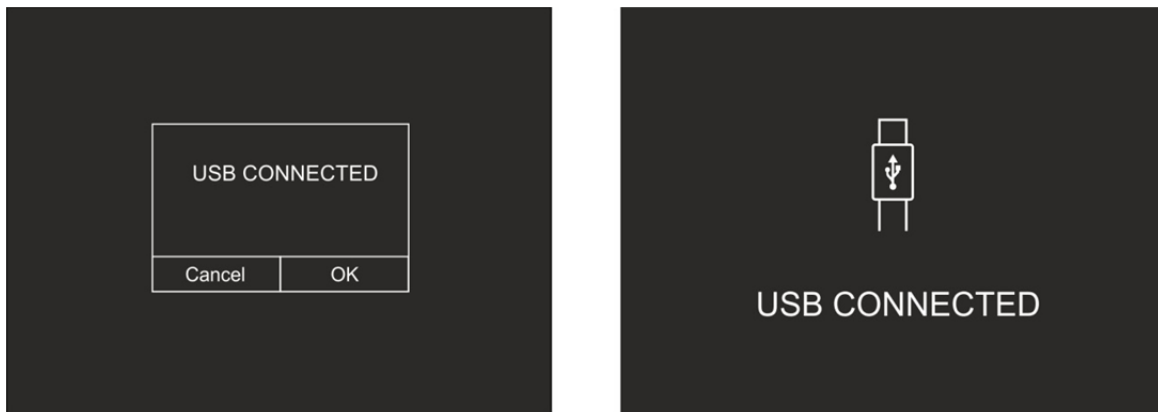

Fig. 12: Connecting the instrument to the PC
3. Connect the instrument to the PC via the provided USB cable. The screen in Fig. 12 – left side appears on the display:
4. Confirm with “OK” to activate the connection, or touch “Cancel” to go back to the main menu. The screen in Fig. 12 – right side appears on the display, and the instrument does not accept any command.